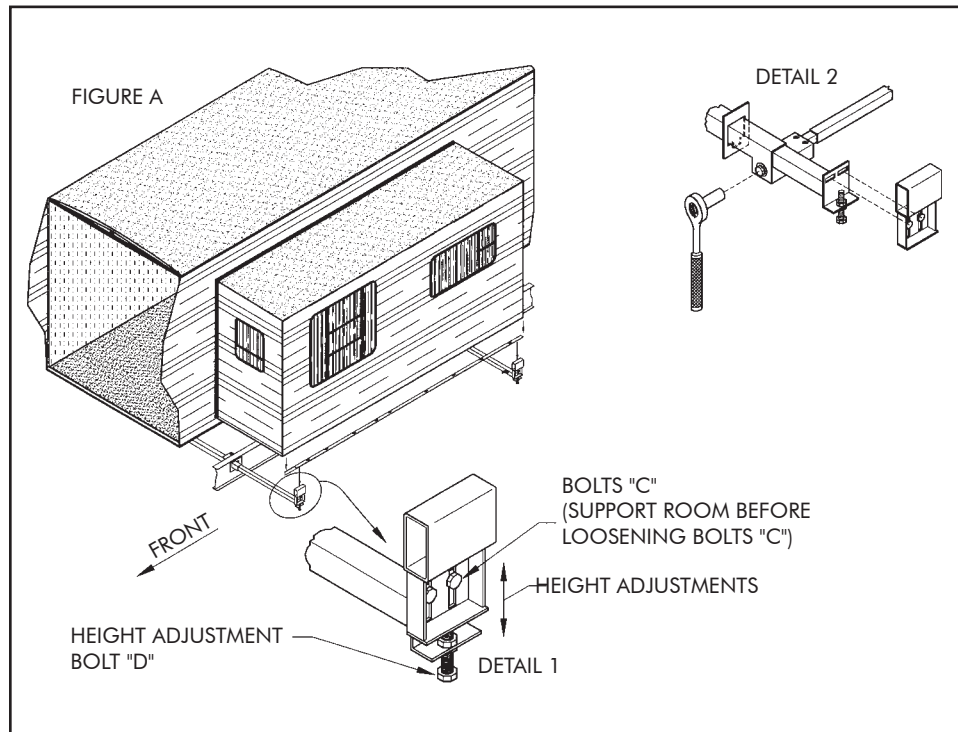

FIGURE 21
7. Place close-off top starter on the tip-out roof with 3" leg against tip-out roof. Mark the 3" leg at both ends where it extends beyond the tip-out room. Starting at each end, slit along bend line to the point marked on 3" leg (See Figure 21).
The slide-out rooms operate by a ratchet with a 15/16" socket. To operate, first locate the shaft for the socket wrench. It can be found on the exterior of the unit near the bottom center of the slide-out room. Place the socket wrench over the shaft and turn clockwise to retract or counter-clockwise to extend the slide-out room. (See Figure 21, Detail 2).
To adjust the height of the slide-out room find the height adjustment assemblies. They are located under the slide-out room along the outermost wall. (See Figure 21). Loosen bolts "C" (two per assembly) shown in Detail 1 of Figure "A." Turn the height adjustment bolts "D" as needed; clockwise to raise the room, counterclockwise to lower the room. After making the adjustments, retighten bolts "C." To adjust the height of the optional front bedroom slide-out, refer to the slide-out room section in the owner's manual. When adjusting the height of the room, blocks and/or jacks to help support the room may prove helpful.